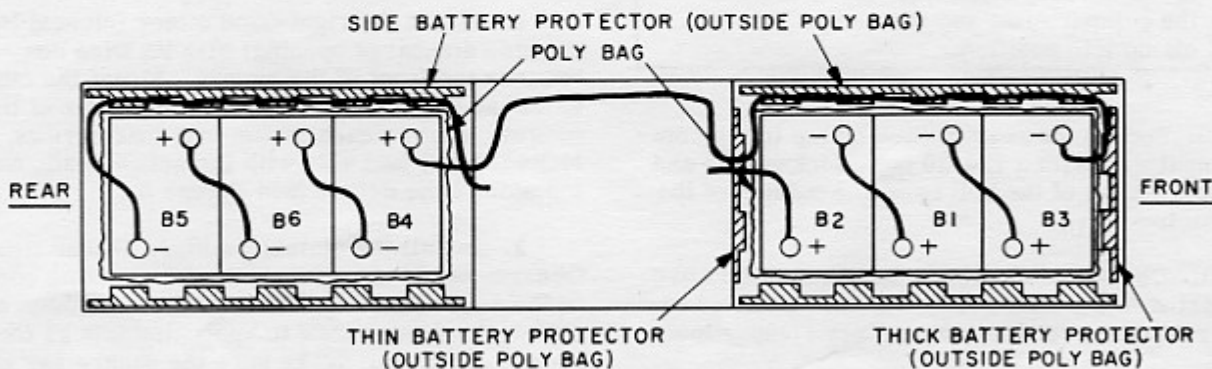

Figure 6
4. Place one of the long vacuum-formed battery protectors along each side of the poly bag (outside) so the corrugations will face the battery walls. (See Figure 6.)
5. Place the short sections of battery protectors in similar fashion at the ends of the compartment with the thicker one at the front as shown in Figure 6.
6. Carefully set three batteries in the bag as shown in Figure 6 observing polarity markings. Make sure the sides of the bag remain above the top surface of the batteries in equal amounts. (It
7. Connect the battery cables in accordance with Figure 6. Observe clamp polarity markings. Coat the terminals, after connections are made, with a thin film of Battery Terminal Protective Grease, AP31. Make sure all surfaces are coated!